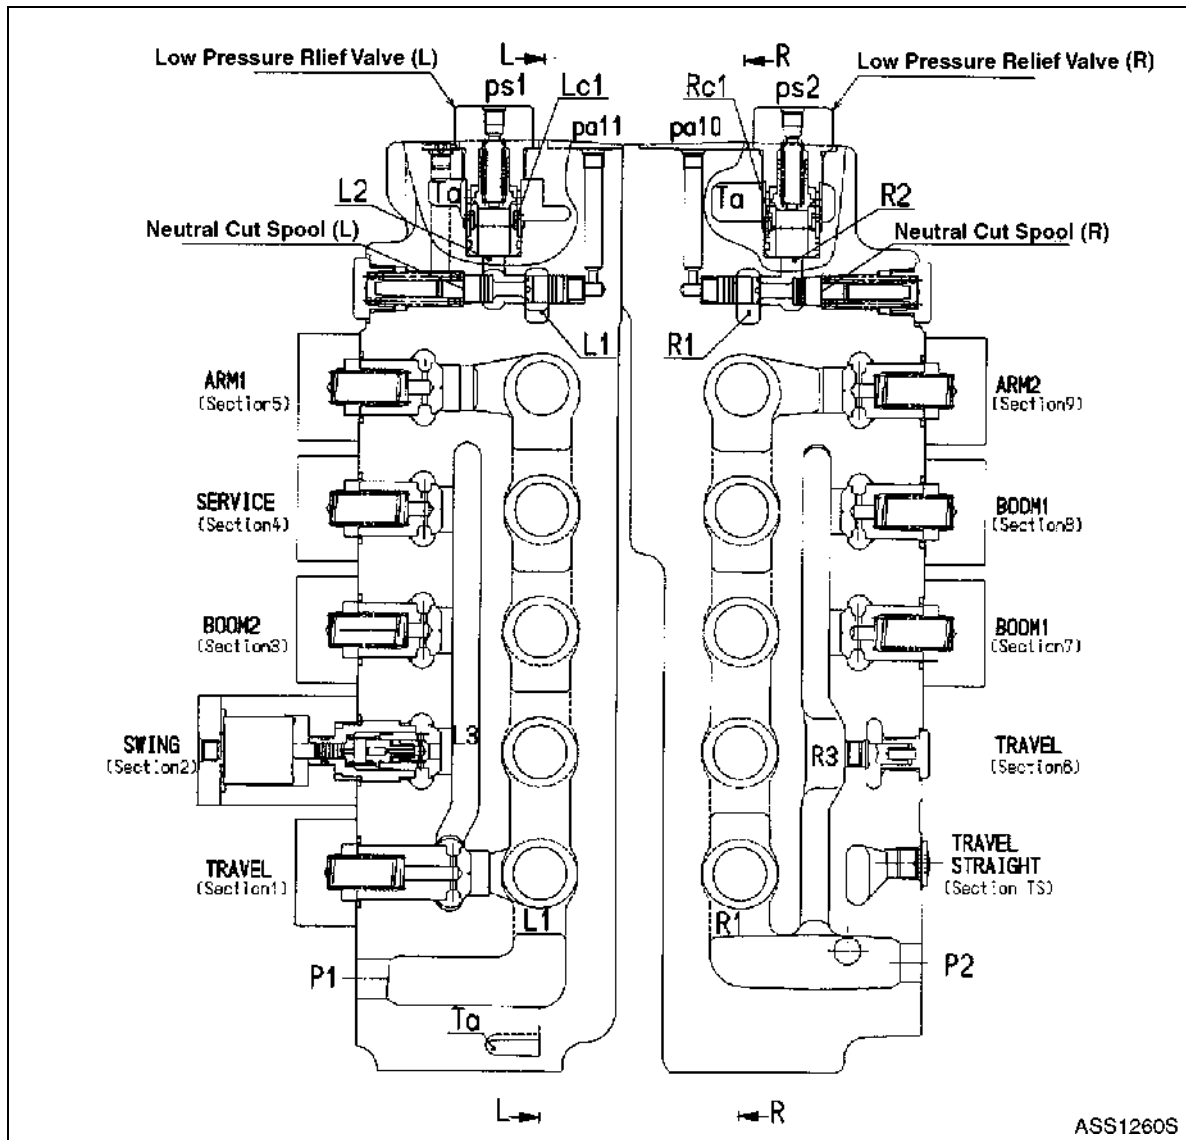
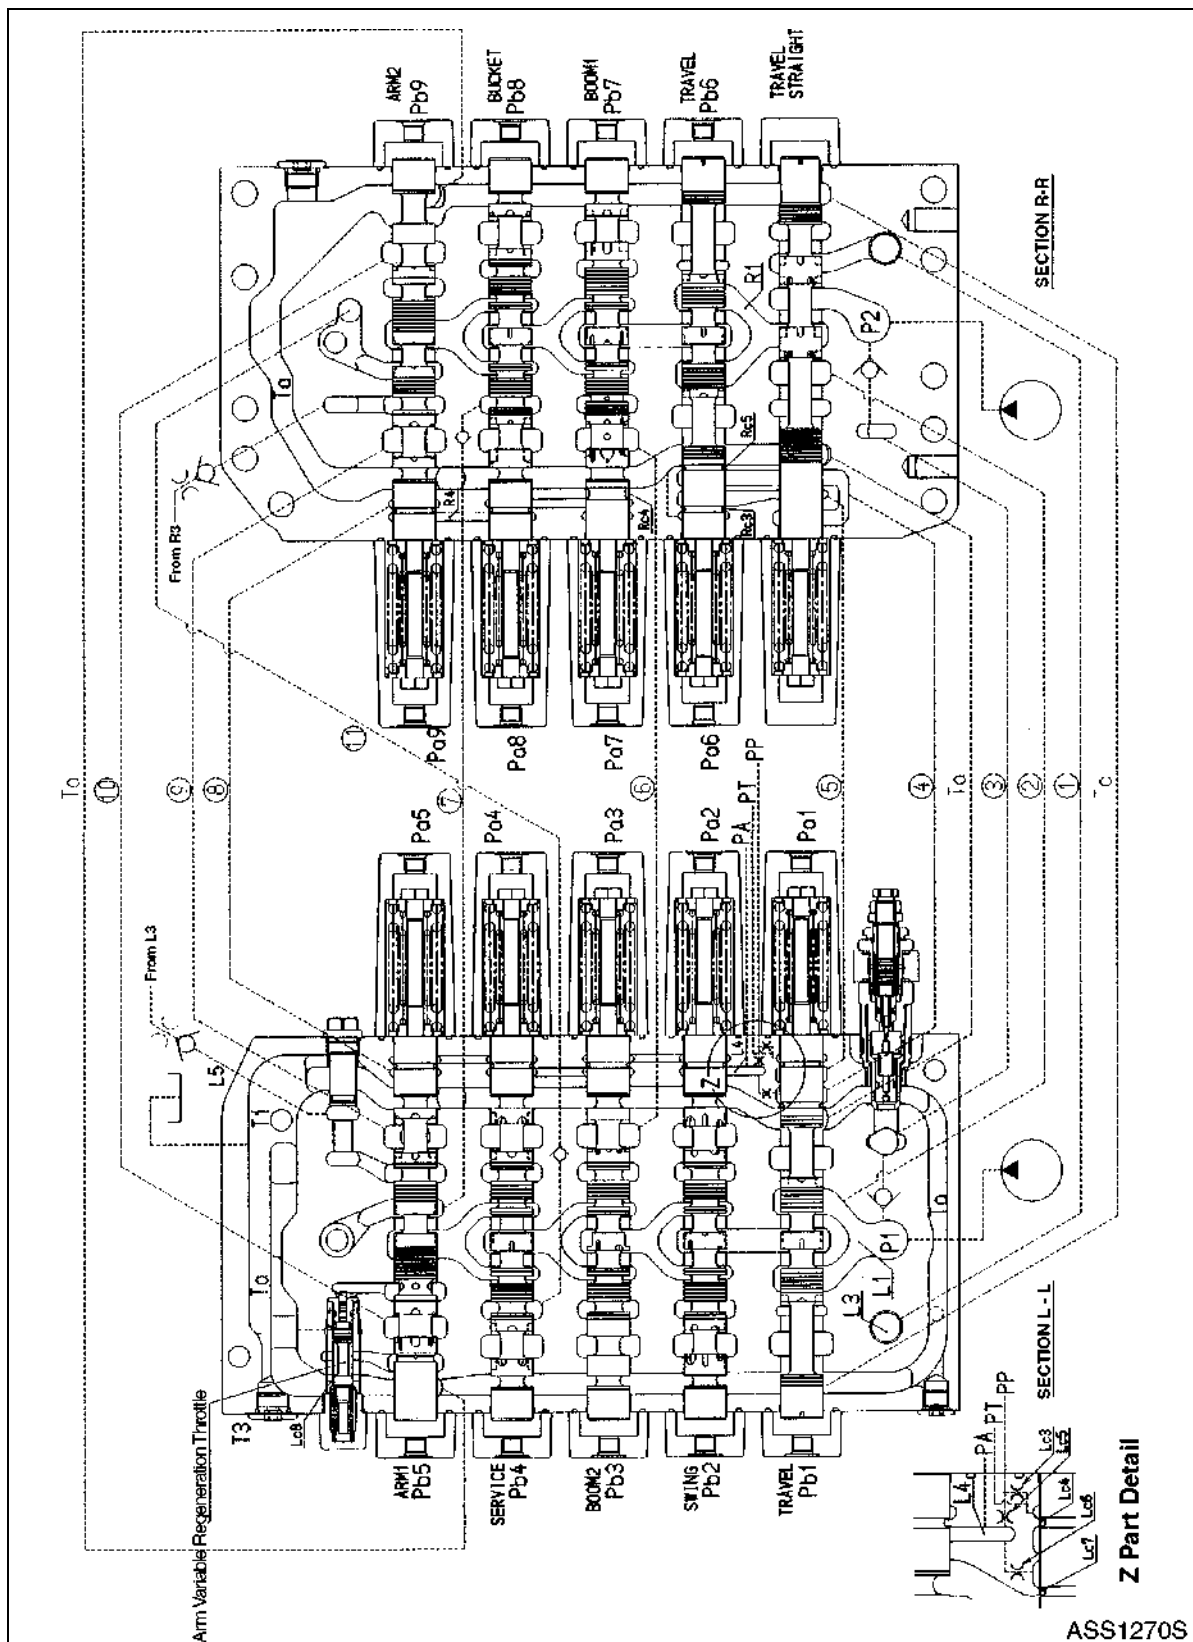

Figure 1
Figure 2
Neutral Passage (Figure 1 and Figure 2)
Signal Passage (Figure 2)
1. Oil supplied to port (PP, Figure 2), after passing through orifice (Lc3), is divided into two flows. One flow is sent to port (PT), and the other flows through land (Lc4) and passage (5) to land (Rc3) and into tank passage (Ta).
2. The same oil supplied from port (PP), after passing through orifice (Lc5), flows partly to port (PA) and passes partly through passages (L4), (8) and (R4), to boom spool 1 land (Rc4) and flows into tank passage (Ta).
3. The oil passing through orifice (Lc6) flows partly from land (Lc7), to tank passage (Ta), and passes partly through passage (4) to travel spool land (Rc5) and flows into tank passage (Ta).
1. When spare spool is shifted by increasing pressure of spare (section 4) pilot port (Pb4 (Pa4)), neutral passage (L1) is closed. Oil supplied to port (P1) flows through, parallel passage (L3), load check valve (S4-1), passage (S4-2), and spool, into port (B4 (A4)). When neutral-cut spool (R) is shifted by increasing pressure of port (pa10) (Figure 1) also, oil supplied from port (P2) flows through passage (11), and poppet (S4-3), it then joins with passage (S4-2). Return oil returns through port (A4 (B4)) and spool to tank passage (Ta).
1. When bucket spool is shifted by increasing pressure of bucket (section 8) pilot port (Pb8 (Pa8)), neutral passage (R1) is closed. Oil supplied to port (P2), flows through, parallel passage (R3), load check valve (S8-1), passage (S8-2), and spool, into port (B8 (A8)). When neutral-cut spool (L) is shifted by increasing pressure of port (Pa11) (Figure 1) also, oil supplied from port (P1) flows through passage (7) and poppet (S8-3), it then joins with passage (S8-2). Return oil returns through port (A8 (B8)) and spool to tank passage (Ta).